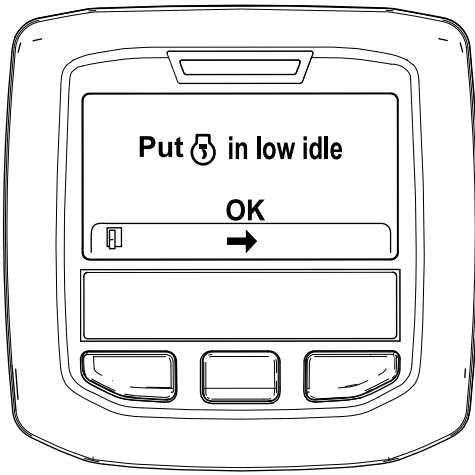

Figure 8
6. Move the throttle control to LOW IDLE and press the center button (Figure 8).